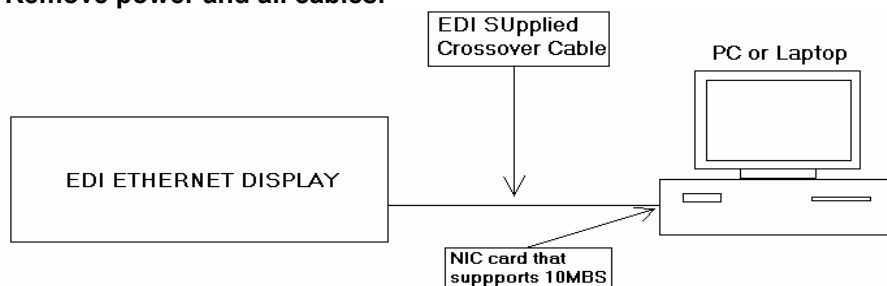

FIGURE 1:
3. Connect the other end to the network in the PC (See Diagram in Figure 1).